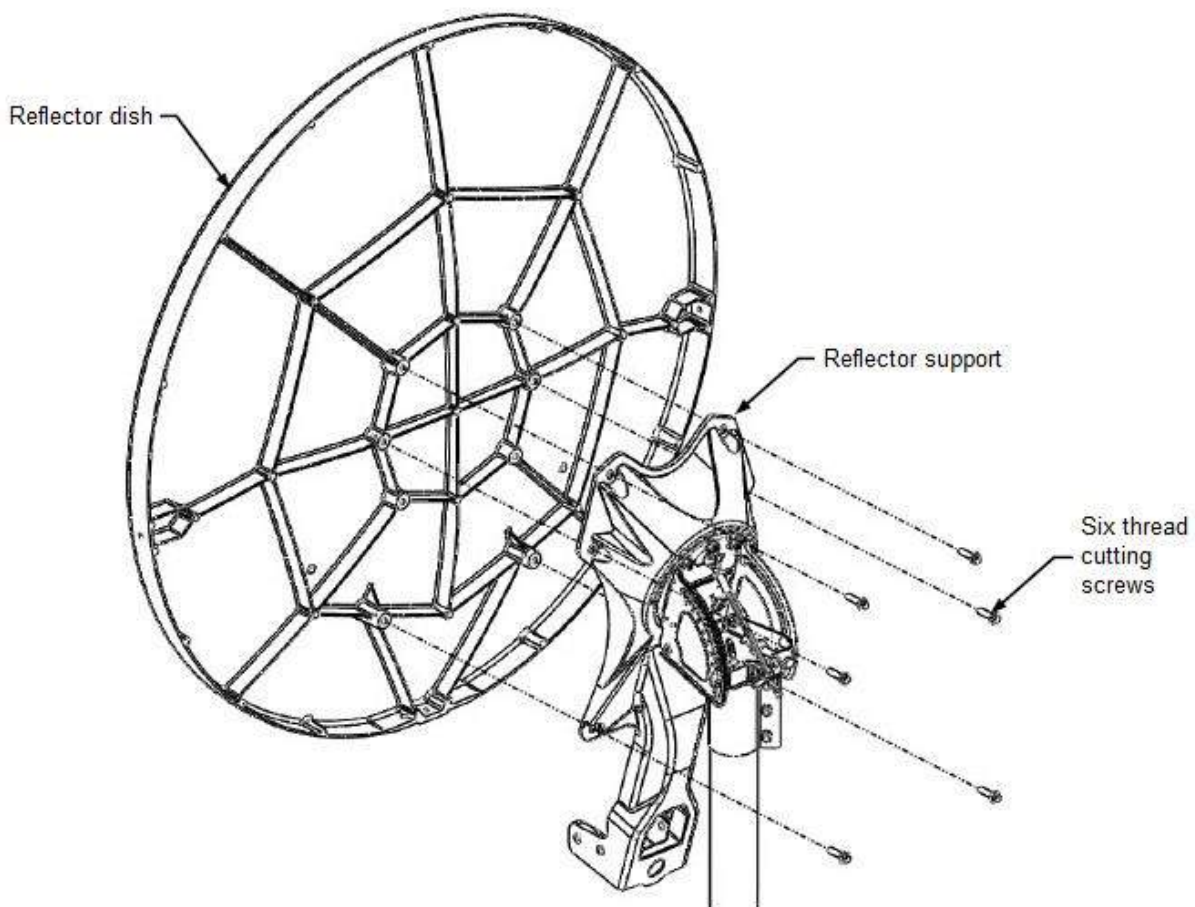

Figure 11: Attaching the antenna reflector
1. Line up the holes on the reflector with the holes on the reflector support, as shown in Figure 11.
2. Insert six thread cutting screws ( $11/32$ -14  $\times$  1.13 inch) into the holes in the reflector bracket and through the corresponding holes in the reflector, as shown in Figure 11.